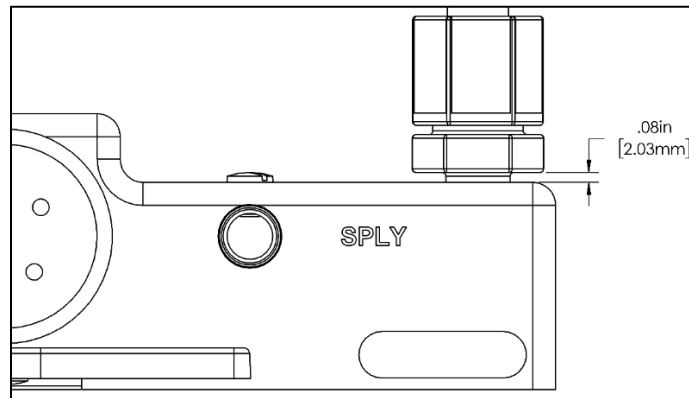

Figure 4-3: Jaco Fitting Final Position
- Depth is .08 inch from bottom of wrench hex to top of pump base as shown. See Figure 4-3. Loosen the nut.